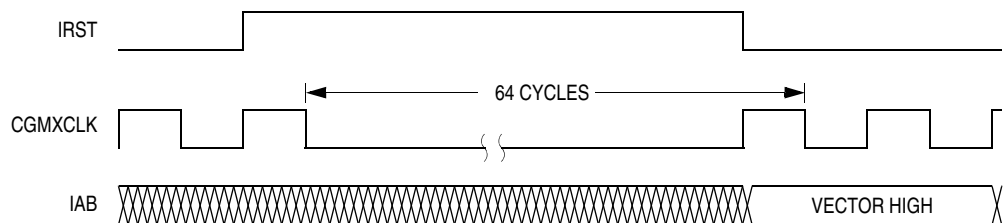

Figure 13-5. Internal Reset Timing
**NOTE:** For LVI or POR resets, the SIM cycles through 4096 CGMXCLK cycles during which the SIM asserts IRST. The internal reset signal then follows with the 64-cycle phase as shown in Figure 13-5.